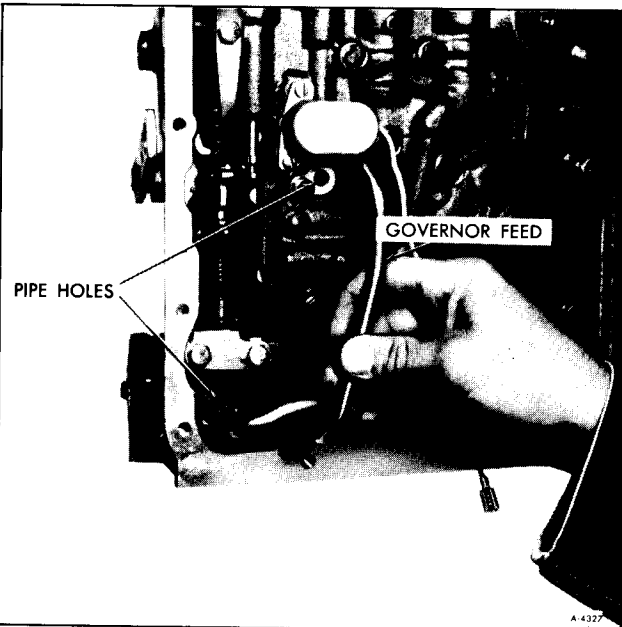

Figure 26—Removing Governor Feed Pipe
3. Remove governor feed pipe from transmission case and valve body by lifting straight out. Figure 26.